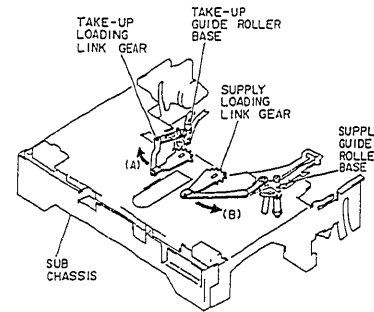

Fig. 2-45
- 1) Turn the take-up loading link gear in the direction of arrow (A) to release the engagement with the sub chassis. (See Fig. 2-45)
- (2) Supply Guide Roller Base
- 1) Turn the supply loading link gear in the direction of arrow (B) to release the engagement with the sub chassis. (See Fig. 2-45)
- 1) Remove the take-up guide roller base. (See Fig. 2-45)
- 1) Remove the supply guide roller base. (See Fig. 2-45)